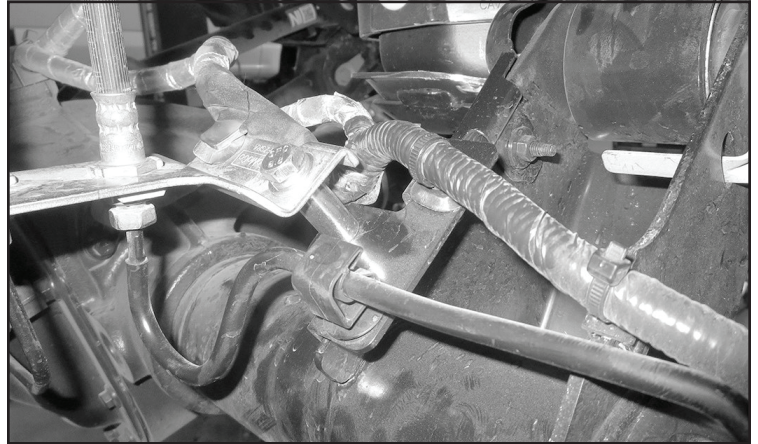

FIGURE 23 - STEP 35
35. Disconnect the hard brakeline bracket from the passenger side link mount. Reinstall the bracket using FT161 (Sleeve) and the supplied M8 x 50mm bolt and washers. Torque to 12 ft-lbs. **SEE FIGURE 23**